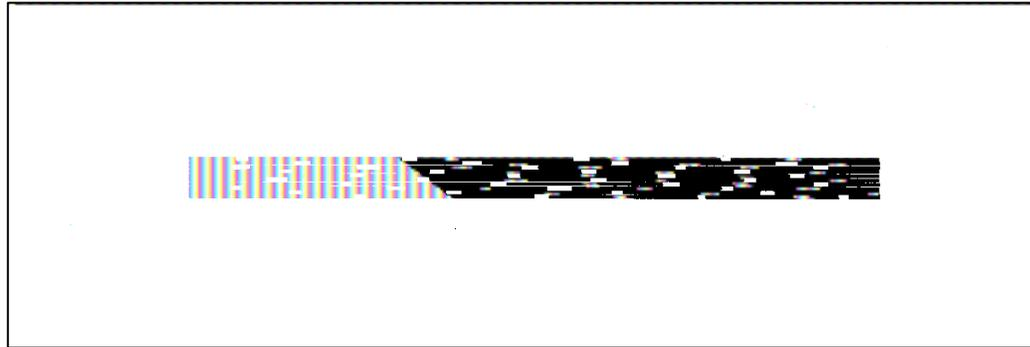

Figure 5.2-1 - Fibers of a Rope
- a. Natural fiber ropes are made from fibers of varying lengths depending upon their source. The first process is to comb out these fibers into a long even ribbon as shown in Fig 5.2-1.